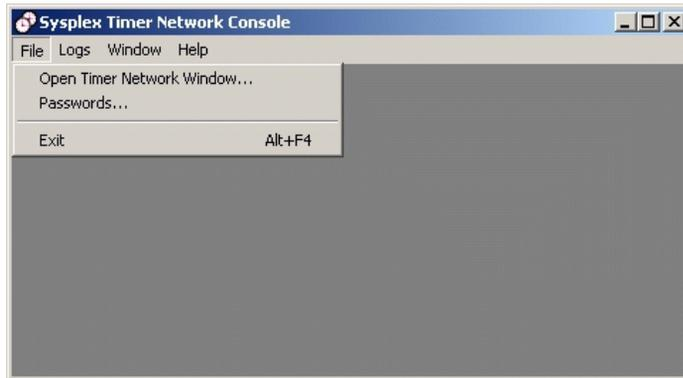

Figure 33 Sysplex Timer Network Console Startup Window
2. The application opens and the *Sysplex Timer Network Console* startup window displays (Figure 33).